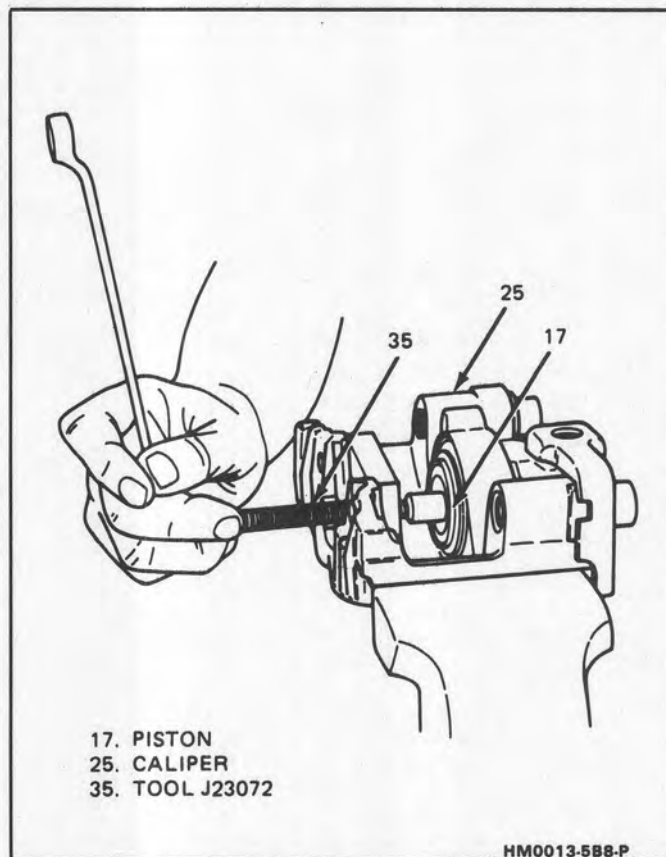

Fig. 13 Installing Piston into Caliper
10. Lubricated piston (17) with actuator screw assembly, balance spring and boot into lubricated bore of caliper (25). Push piston to bottom of caliper bore using J23072 (35) (Figure 13).